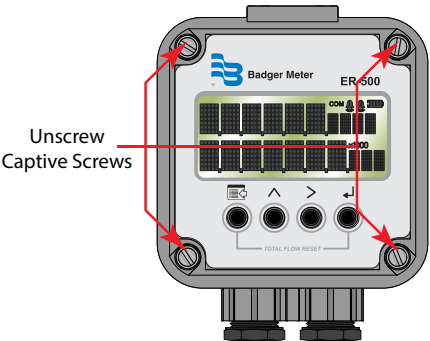

Figure 13: Opening the ER-500
1. Unscrew the four captive screws on the front panel to gain access to the battery (see Figure 13).